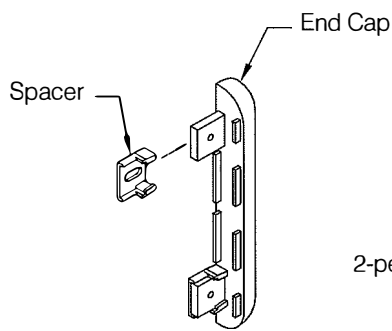
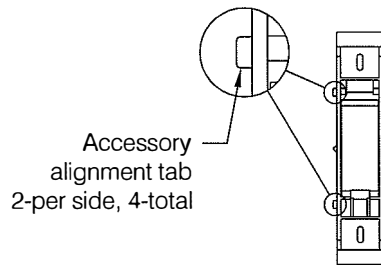
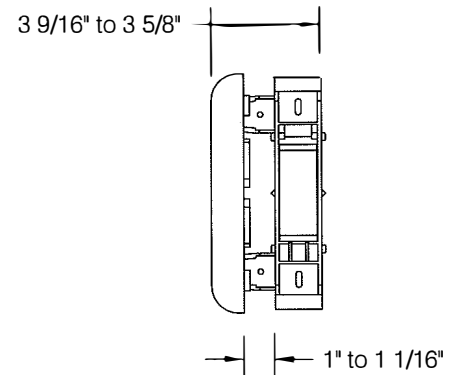

fig 4
fig 5
fig 6
- Step 3:** A Red-E-Clip® must be installed adjacent to each molded accessory. Begin by installing a spacer on each of the accessory mounting tabs, see **fig 4**. The Red-E-Clip® has four accessory alignment tabs used to facilitate positioning of the molded components with respect to the clip, see **fig 5**. Temporarily locate the accessory and Red-E-Clip® combination by holding them temporarily in their desired position. Remove the accessory and fasten the Red-E-Clip® in place. It is also possible to locate the clip by measuring 3 9/16" to 3 5/8" from the outer edge of the desired accessory location or 1" to 1 1/16" from the inner edge, see **fig 6**.